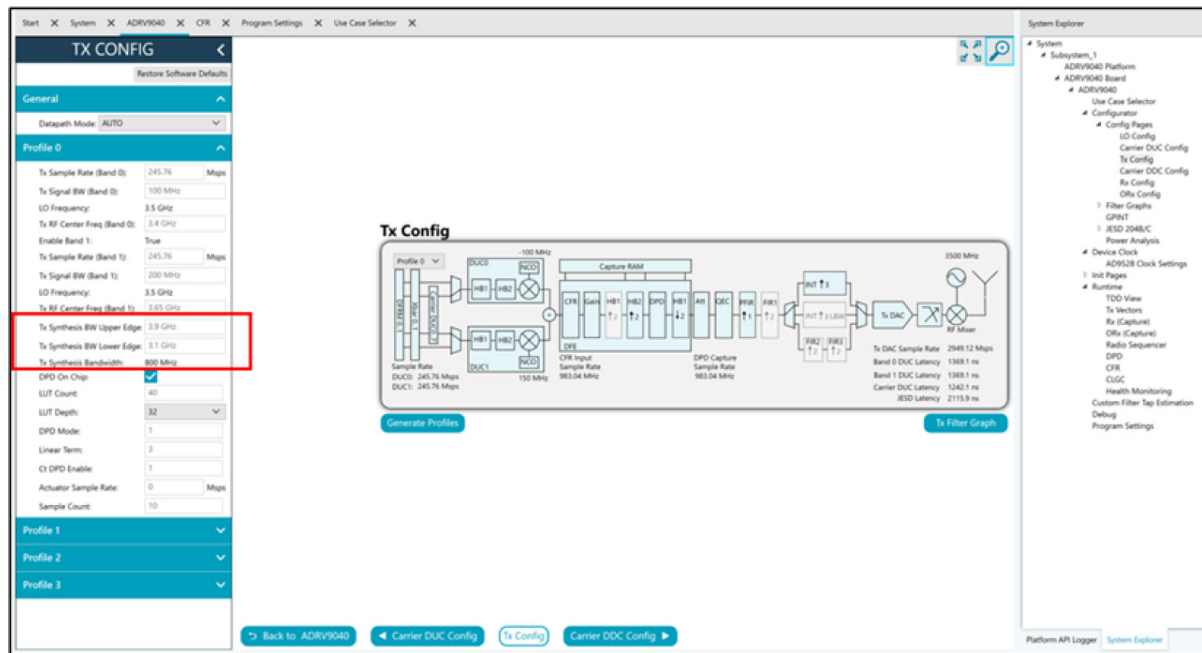
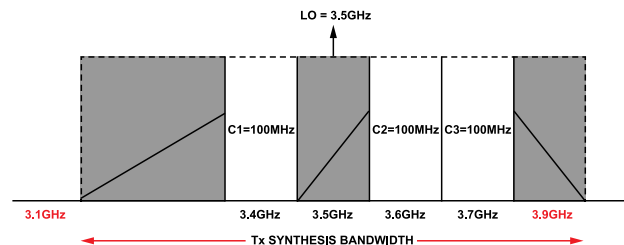

Figure 23. Tx Synthesis BW Configuration
Figure 24. Tx Synthesis Bandwidth Configurator for CDUC Configurator
- ▶ The digital predistortion (DPD) analysis bandwidth (transmitter synthesis bandwidth) and internal DPD enable must be entered on the **Tx Config** page as shown in Figure 23.
Refer to the example shown in Figure 24 where the passband consists of 3× NR100 carriers centered at 3.4 GHz, 3.6 GHz, and 3.7 GHz, respectively. The gray shaded region shown in Figure 24 represents the 800 MHz synthesis bandwidth spanning from 3.1 GHz (transmitter synthesis BW lower edge) to 3.9 GHz (transmitter synthesis BW upper edge). For this example, configure the transmitter synthesis BW upper edge as 3.9 GHz and the transmitter synthesis BW lower edge as 3.1 GHz on the **Tx Config** page as shown in Figure 23.